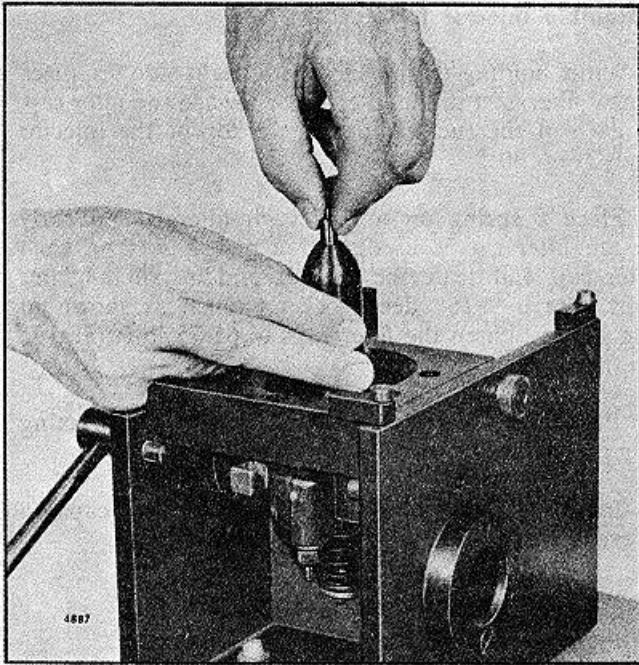

FIG. 33 Tightening Injector Nut by Hand
5. Lubricate the threads in the injector nut and carefully thread the nut on the injector body by hand. Rotate the spray tip between your thumb and first finger while threading the nut on the injector body (Fig. 33). Tighten the nut as tight as possible by hand. At this point there should be sufficient force on the spray tip to make it impossible to turn with your fingers.